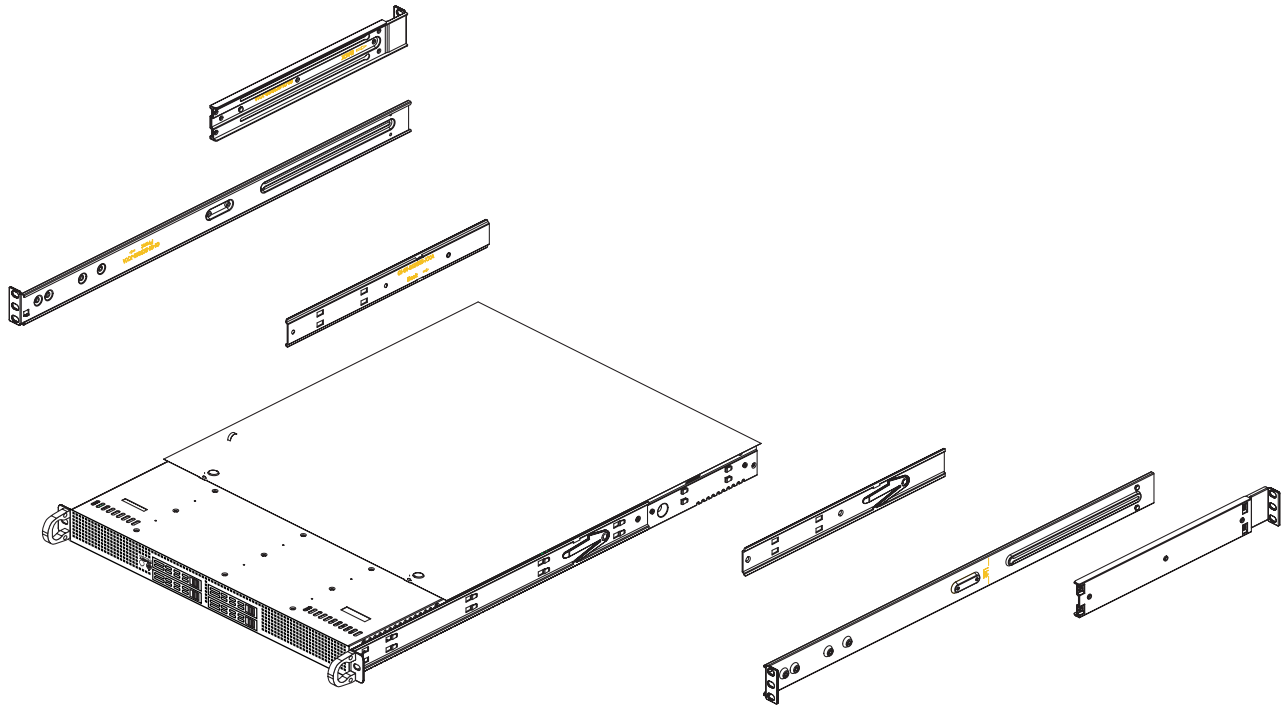

Figure 2-2 Separating the System Rack Rail Components
1. Locate the rail assembly in the chassis packaging as shown in Figure 2-2.